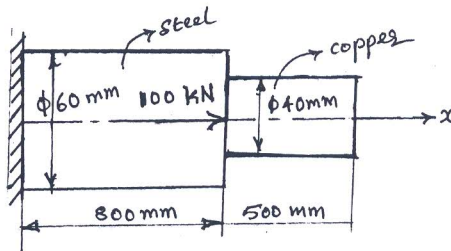

Fig. Q3(b)
- b. Determine the nodal displacement, elemental stresses and support reaction of the bar shown in the Fig. Q3(b). Take  $E_{\text{steel}} = 200 \text{ GPa}$  ;  $E_{\text{copper}} = 100 \text{ GPa}$ . (10 Marks)